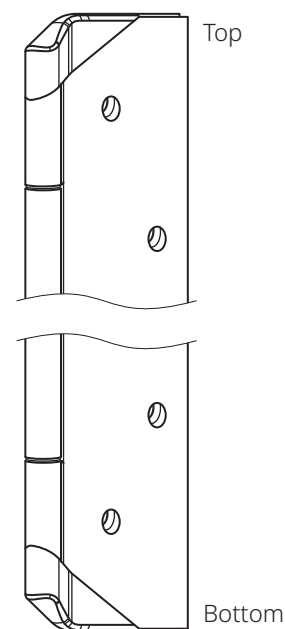

Figure 6
- Hospital Tip Location (Fig. 6): When using an HT (Hospital Tip) version, the hospital tip end should be at the top and bottom of the hinge.